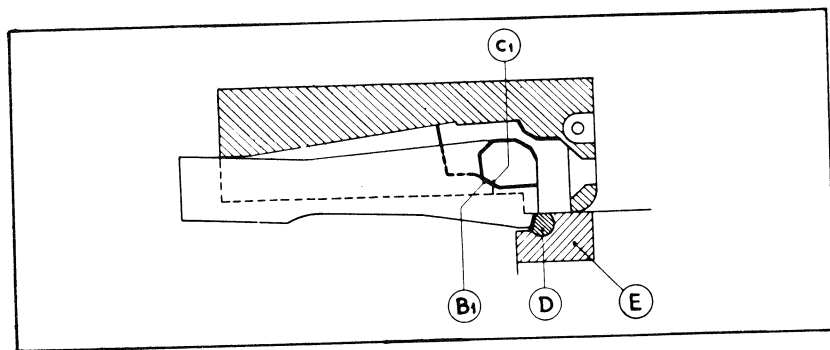
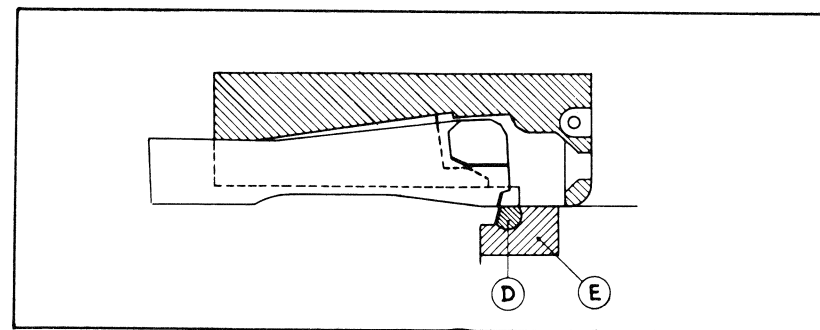

Fig. 6
Fig. 7
- The slide in its rearward movement, the ramps (B1) of the slide engage the cams (C1) on the bolt (fig. 6) and lift it out of engagement with the locking shoulder (D) in the receiver (E) (fig. 7).